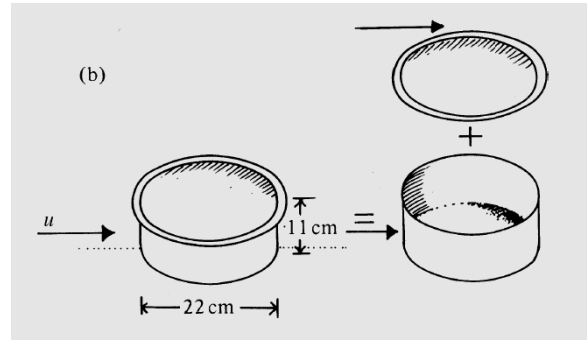

Figure H1: Diagram of a cooking pot with lid.
A metal cooking pot with a shiny outside surface, of the dimensions shown in Fig. H1 is filled with food and water and placed on a cooking stove. What is the minimum energy required to maintain it at boiling temperature for one hour, (1) if it is sheltered from the wind (2) if it is exposed to a breeze of 3.0 m/s?